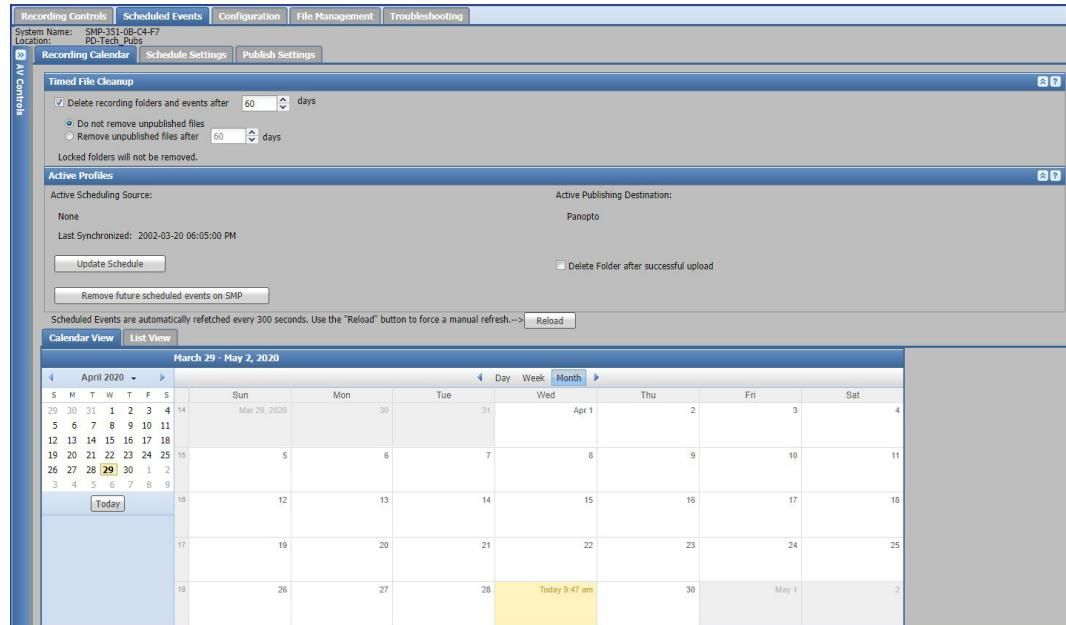

Figure 42. Recording Calendar Page
- **Calendar View** (see figure 42) — Access a detailed view dialog box about each specific event from this page. Also, in the event that a recording does not transfer to the designated network server or if a file needs to be uploaded again, initiate a re-upload from the detail view.